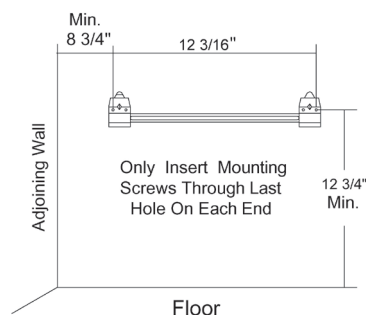

Figure 7 - Mounting Bracket Clearances (inches)
2. Mark screw locations on wall (see Figure 7).